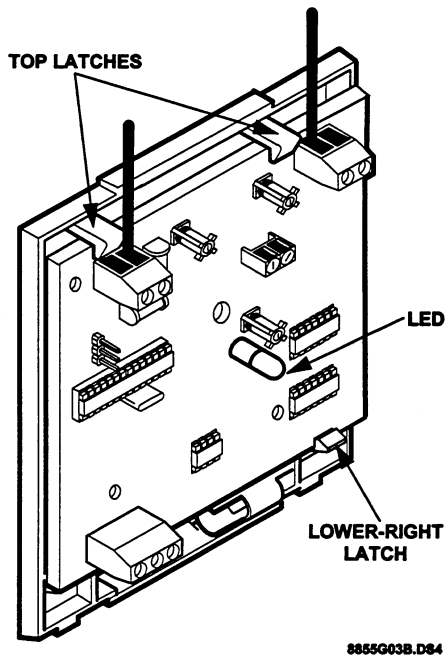

Figure 3. Removing the Circuit Board
2. Press down on the lower-right corner of the base until the latch releases the circuit board (see Figure 3). Gently lift the circuit board by the terminal block to remove it from the base. Place the circuit board in the cover while you mount the base.